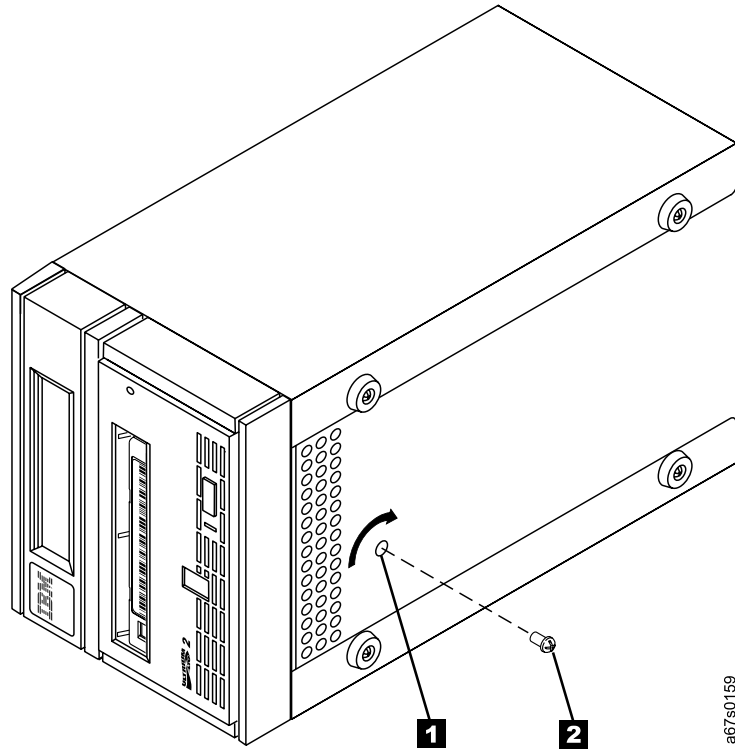

Figure 24. Removing the screw from the access hole
3. Place the 3580 Ultrium 2 Tape Drive on its side and locate the access hole at the bottom of the unit (see **1** in Figure 24).